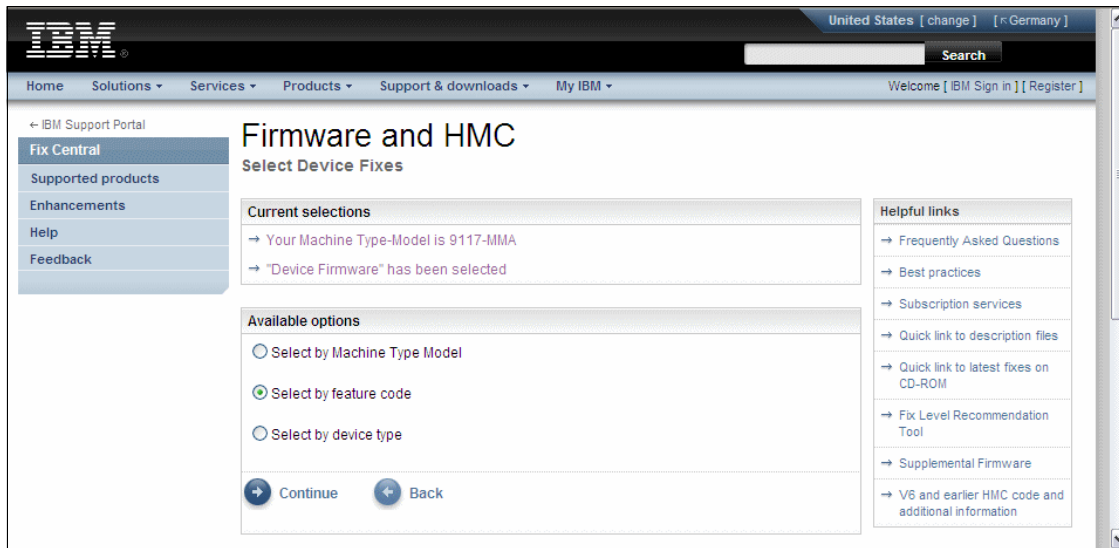

Figure 11-16 IBM Fix Central website: Select by feature code
6. Select **Select by feature code**, or if you do not know the adapter feature code, select **Select by device type** and click **Continue** as shown in Figure 11-16.